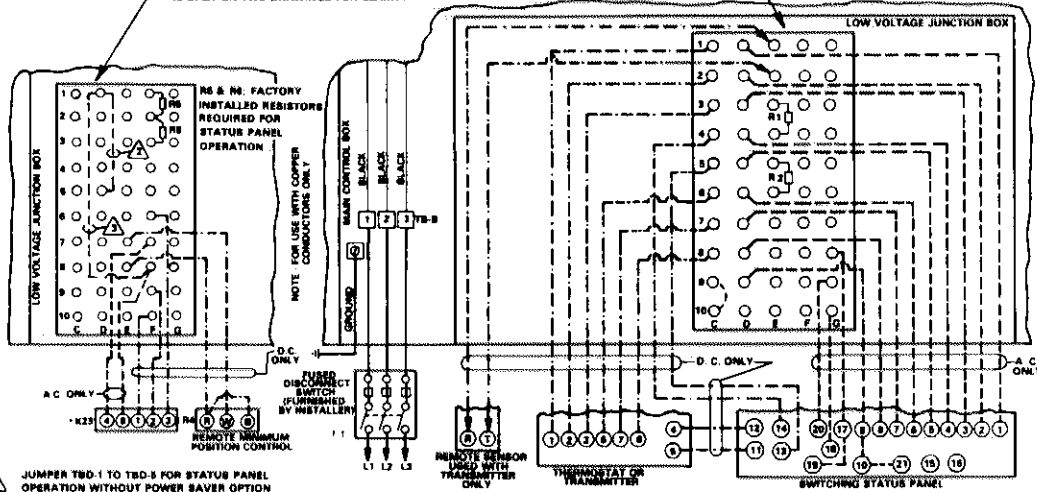

**FIGURE 43**
- 3 - Terminal numbers on jack plugs are located by a ridge on the corner of the plug called "Key." Refer to Figure 43 for proper numbering sequence. Jack plugs are shown in the schematic circuit by both jack plug number and terminal number. For example JP2-5 indicates jack plug number 2 and terminal number 5.